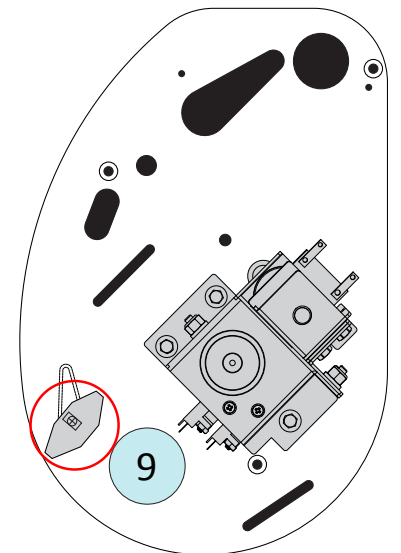

Figure E8. Munchkinland playfield removal, illustration 4.
9) While lifting the Munchkinland playfield, reach under its left front edge and unplug the cable from RGB LED satellite board number 160 (circled in figure E8). This cable will remain connected to the main playfield.